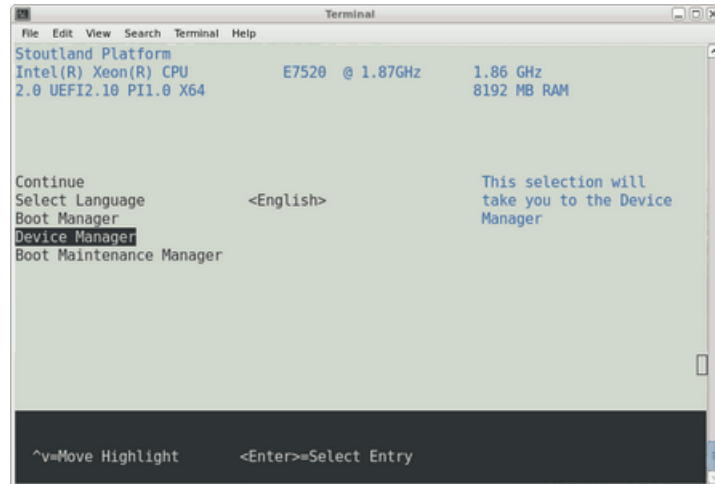
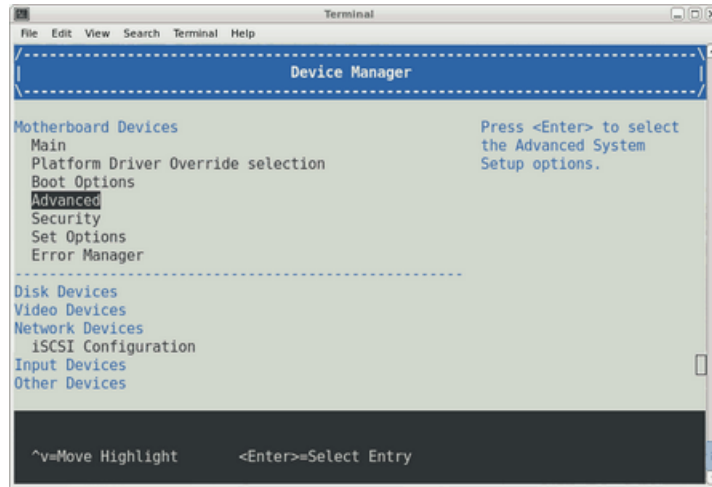
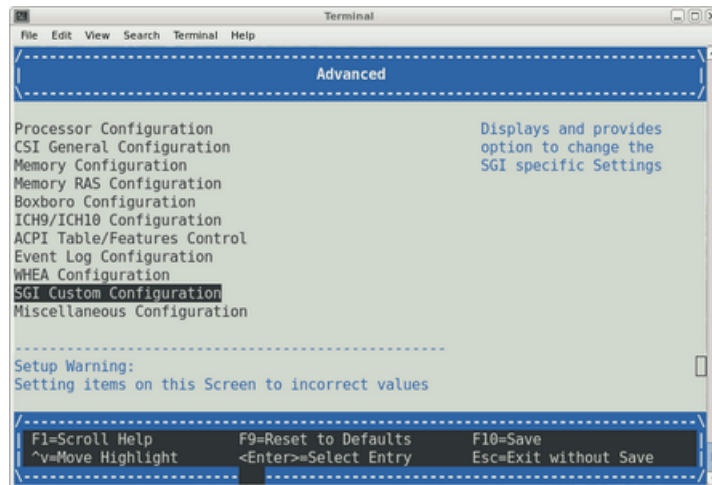

Figure 1-5 Device Manager Screen
Figure 1-6 Device Manager Advanced Option Screen
Figure 1-7 SGI Custom Configuration Option Example
From the boot manager screen, select **Device Manager**, as shown in Figure 1-5 on page 7.
9. From the **Device Manager** screen, as shown in Figure 1-6 on page 8, select **Advanced**.
10. From the **Advanced** screen, select **SGI Custom Configuration**, as shown in Figure 1-7 on page 8.
- Select **Device Manager** (see Figure 1-5 on page 7), **Advanced** (see Figure 1-6 on page 8), **SGI Custom Configuration** (see Figure 1-7 on page 8).